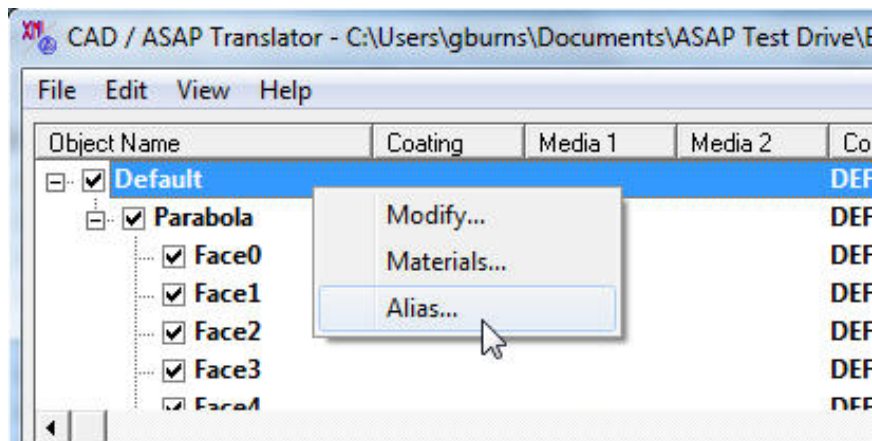

Figure 13 Shortcut menu for object names
- 3 Right-mouse click the first object name at the top of the geometry tree on the translator window to see a short-cut menu with the options shown in Figure 13.